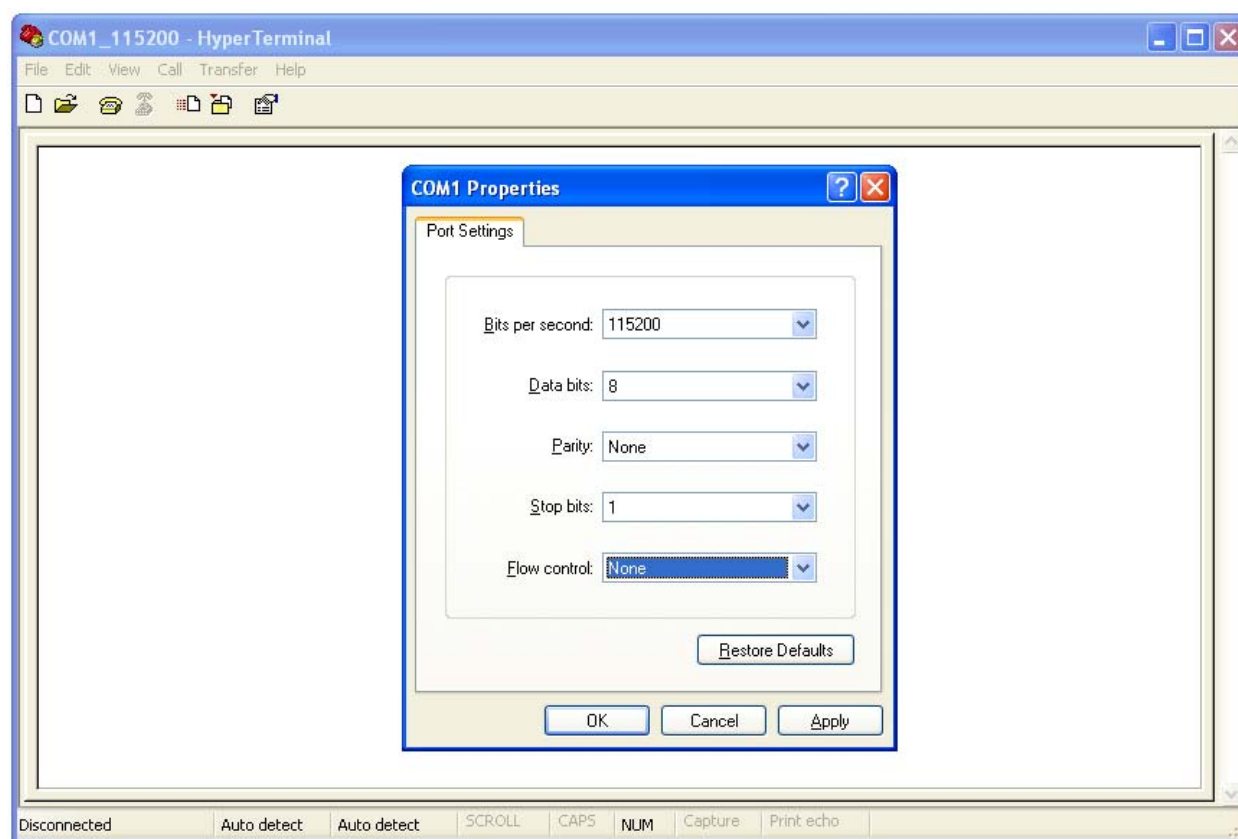

Figure A-12. COM1 Properties
4. Configure the virtual COM port baudrate and other properties as shown in Figure A-12